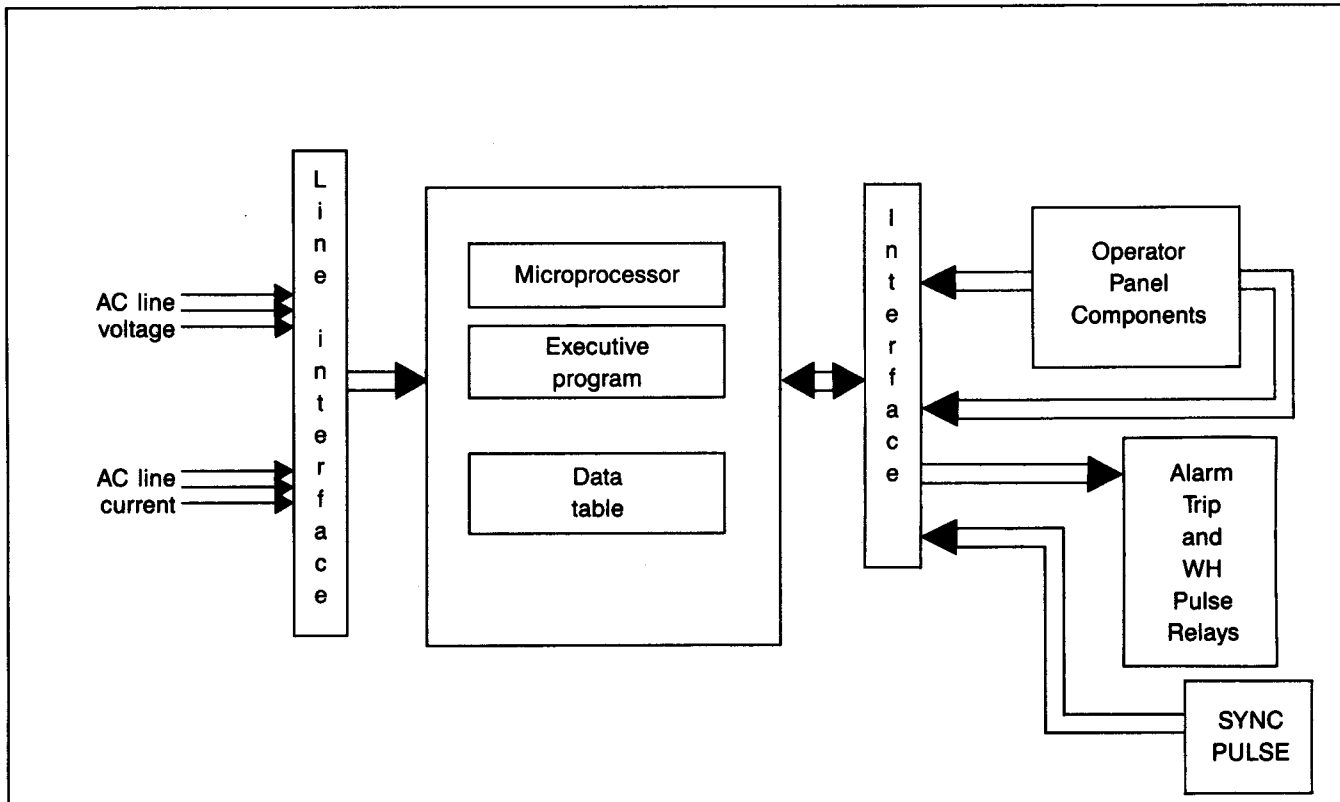

Figure 5.1 — IQ Data Plus II Basic Block
5.1 Basic Block — The IQ Data Plus II is controlled by a self-contained microprocessor which is directed by an "executive program" resident in ROM (read-only memory). (See Figure 5.1.) The microprocessor directs the following 4 operations: